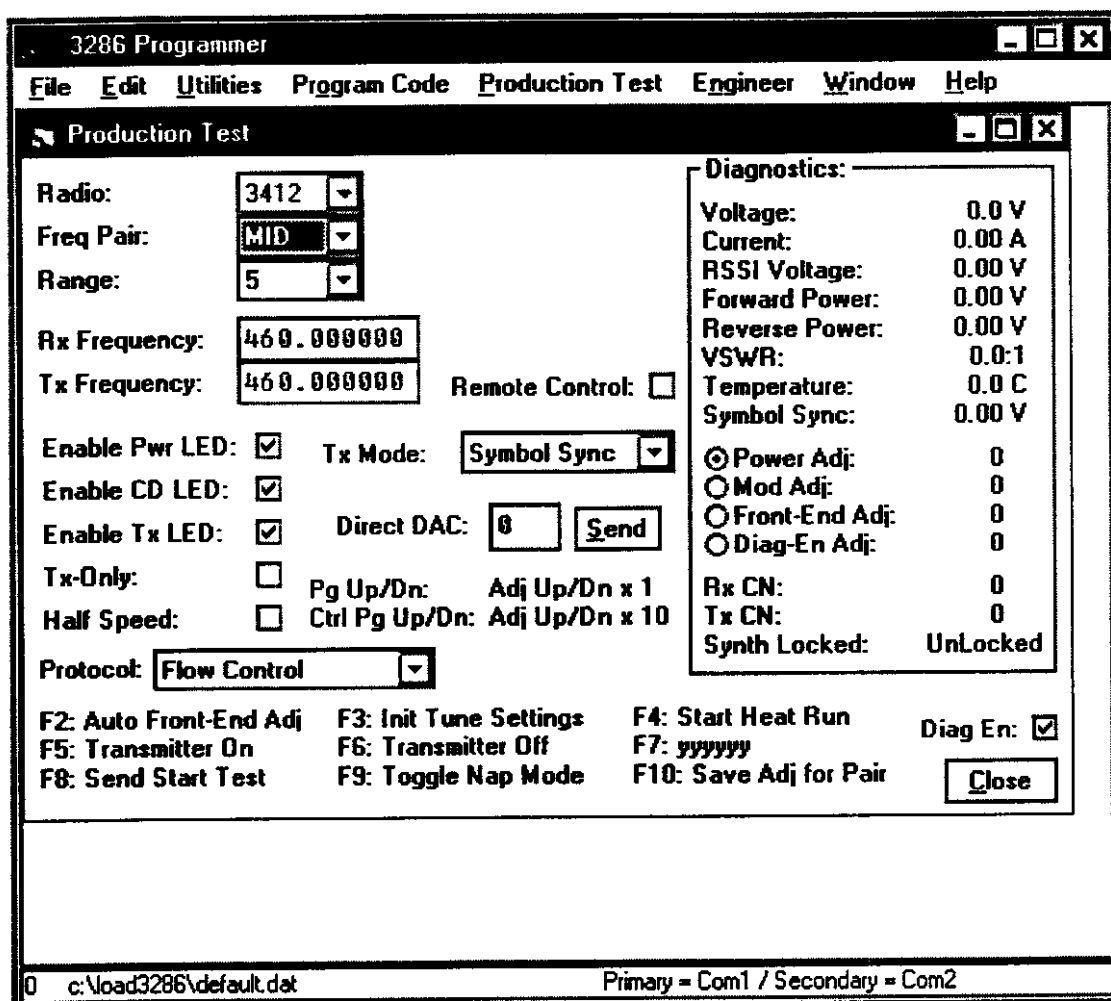
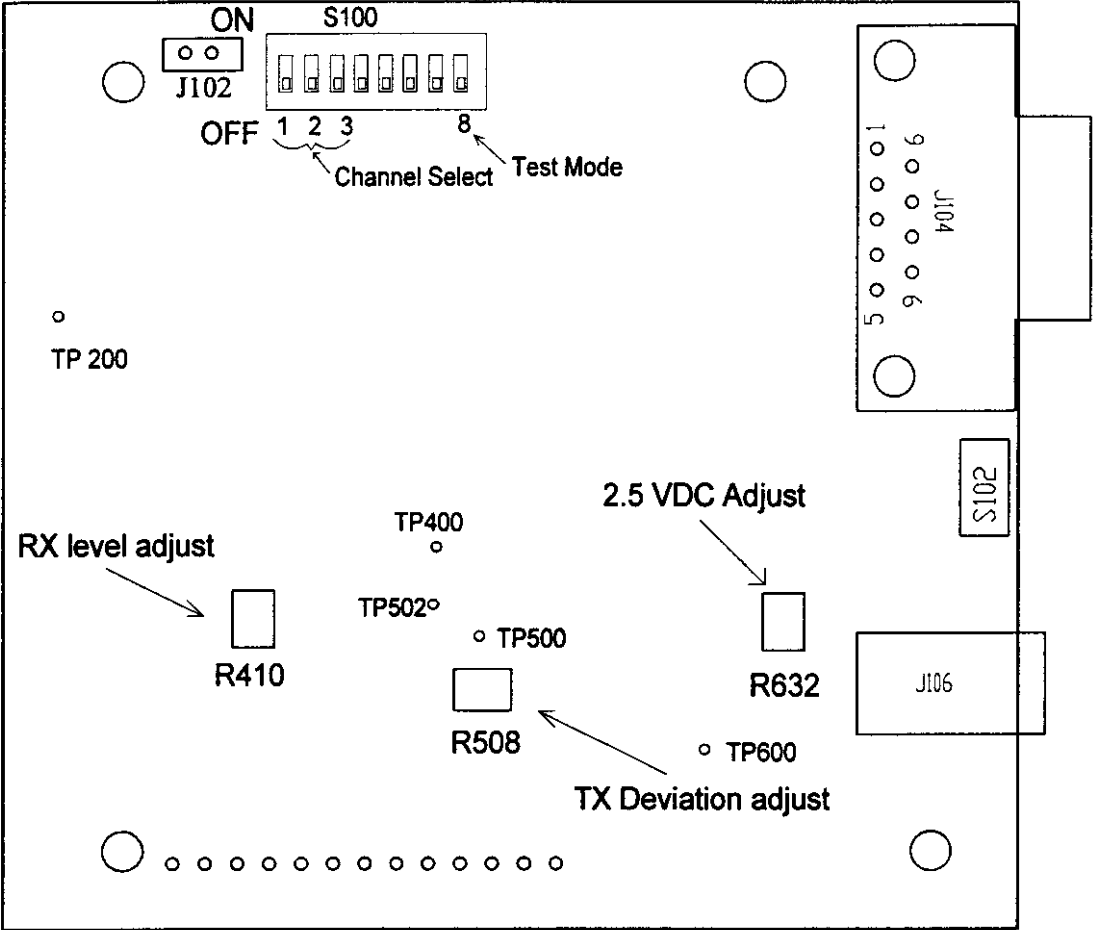

Figure 2-1 3286 Programming Software Screen
Figure 2-2 3286 Modem Board
From the Production Test Screen of the 3286 Programmer Software select Random Data for TX Mode (see Figure 2-1.) Hit the F5 key on the PC keyboard to key the transmitter. Adjust R508 to set the transmitter deviation for 1.5 kHz (see Figure 2.2.)
Input a -80 dBm signal on frequency into the RF transceiver modulated with a 1.2 kHz sine wave with 1.5 kHz of deviation. Monitor the recovered audio at TP 400 (see Fig. 2-2.) Adjust 410 for 1Vp-p (354 mVrms.)
Adjust R 632 for 2.5 VDC at TP 600 (see Fig. 2-2.)
- Write or Read Parameters - Write sends the open data file to the 3286 modem. Read retrieves the current data file from the modem. Before a Read or Write Parameters is executed, press S102 (see Section 2, Figure 2-2) to put the modem into setup mode. After the parameters are sent or received, the power to the modem must be cycled to place the modem back in normal operation so the data transfer can be completed.